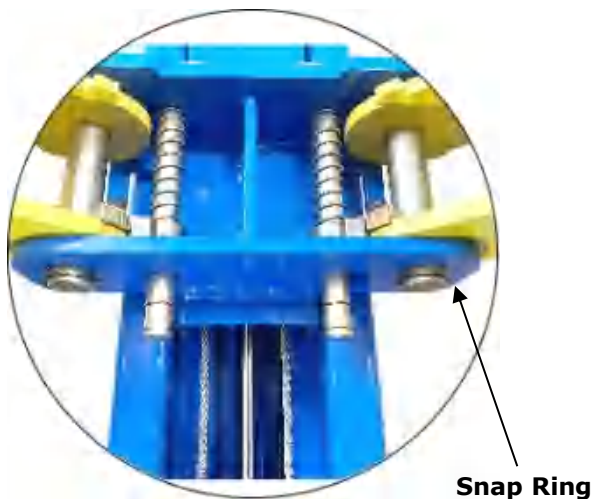

Fig. 39
1. Install the lifting arms (**See Fig. 39**)